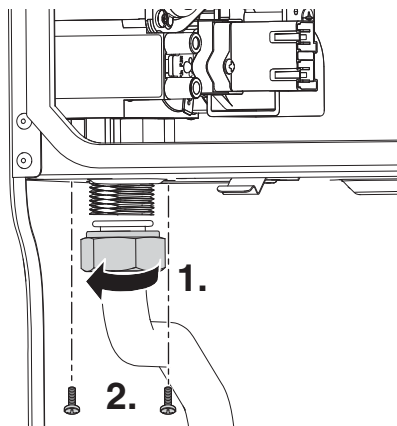

Fig. 96 Gas valve lower connection
1. Refer to figure 96 and undo bottom gas connection to gas valve.